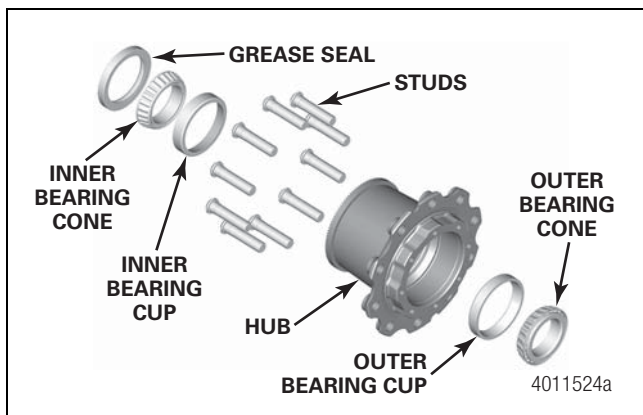

Figure 4.13
2. Remove the grease seal from the hub with a suitable tool. Discard the grease seal. Figure 4.13.
4. Remove the inner bearing cone from the hub. Figure 4.13.
5. Remove the inner and outer bearing cups from the hub with a press and sleeve or a bearing puller. Figure 4.13.